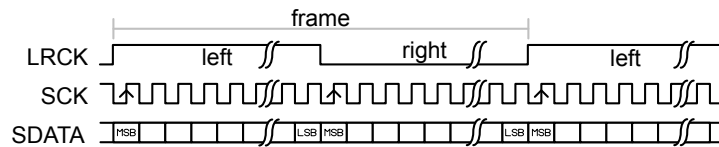

Figure 65: Aligned format. Identical sample width and half-frame width. Left sample on high level of LRCK
- When using Aligned format, the first bit in a half-frame gets sampled on the first rising edge of SCK following a LRCK edge, as illustrated in Figure 65: Aligned format. Identical sample width and half-frame width. Left sample on high level of LRCK on page 234. The left sample is transferred during the high half period of LRCK.